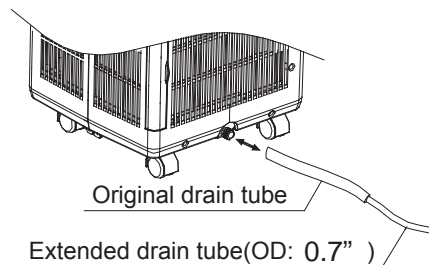

FIG.17
- Connect the drain tube to the drainage port as shown (fig. 17).